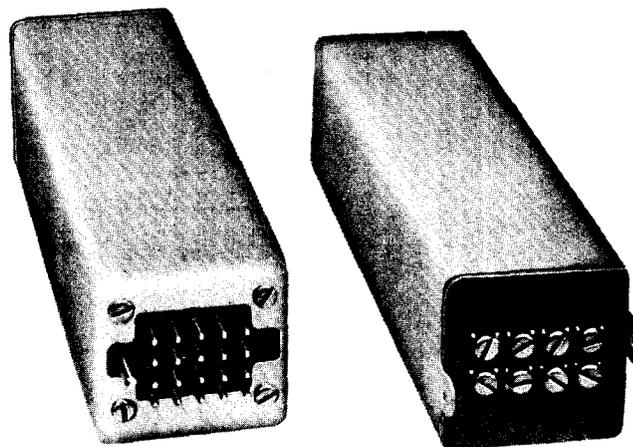

Fig. 1—359L Equalizer
2.01 The 359L equalizer (see Fig. 1) is a plug-in unit equipped with a 20-pin connector plug and is designed to be plugged directly into the equalizer connector socket of the repeater mounting shelf.